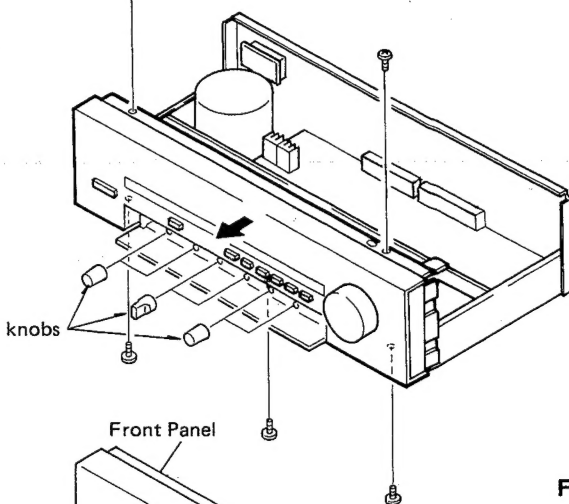

Fig. 8
3. How to remove the front panel (Fig. 8)